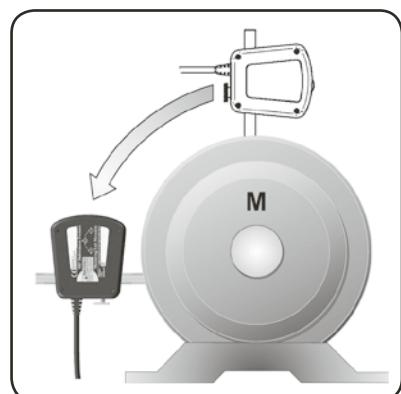

Fig. 17. Adjust to the 9 o'clock position
- Adjust the measuring units to the 9 o'clock position with the aid of the spirit levels (fig. 17).